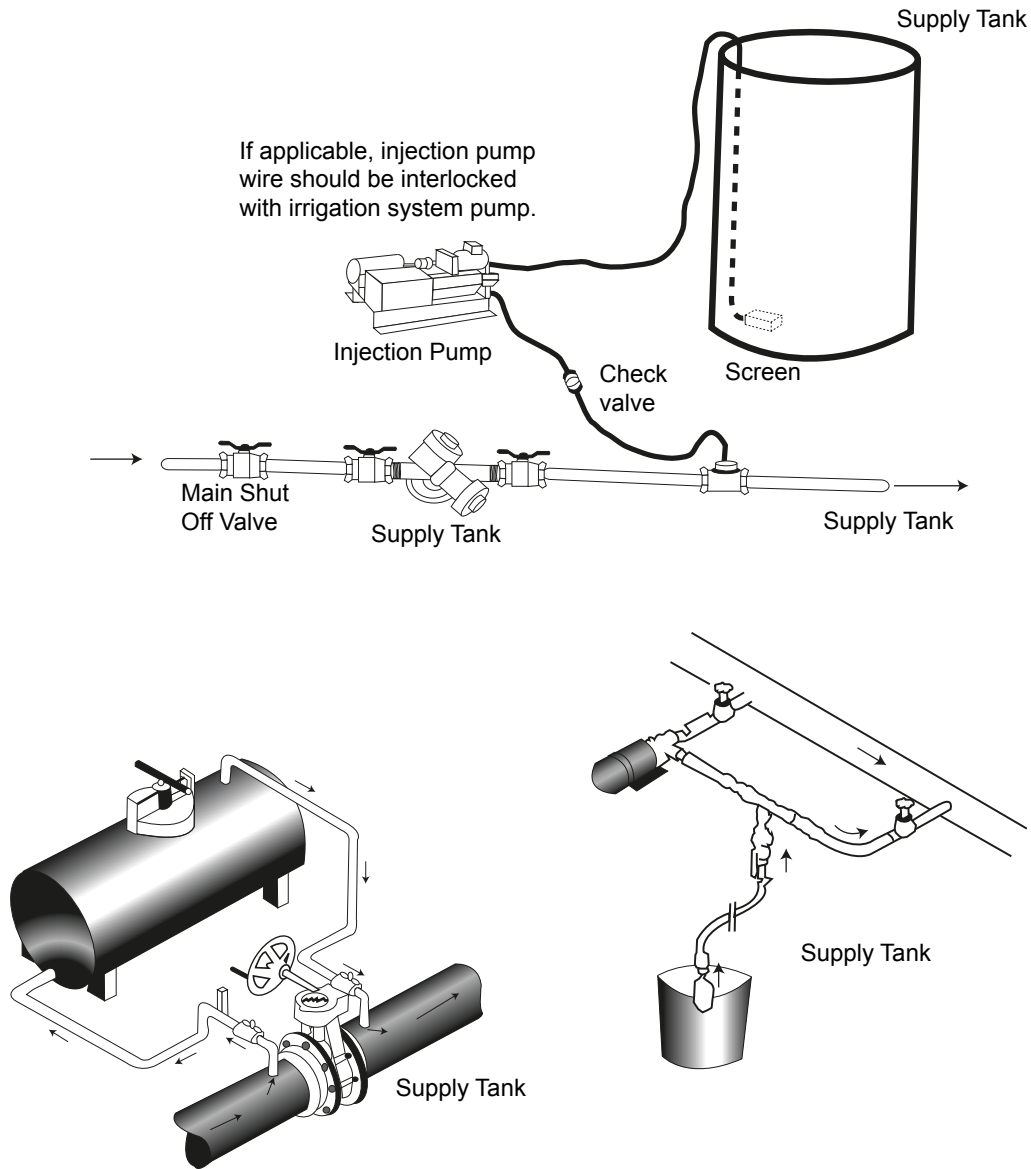

Fig. 9. Fertilizer injectors.
The main types of chemical injectors are the venturi injector, injection pump, and the differential tank (Fig. 9). Criteria for selecting the proper injection system include cost, ease of use/repair, durability and susceptibility to corrosion.
With *venturi injectors*, water is extracted from the main line, then (1) pressure is added with a centrifugal pump (Fig. 9) or (2) a pressure differential is created by a valve in the mainline forcing water through the injector at high velocity. The high-velocity water passing through the throat of the venturi creates a vacuum or negative pressure, generating suction to draw chemicals into the injector from the chemical tank. Although the venturi is cheaper than a positive displacement pump, its injection rate is more difficult to control.